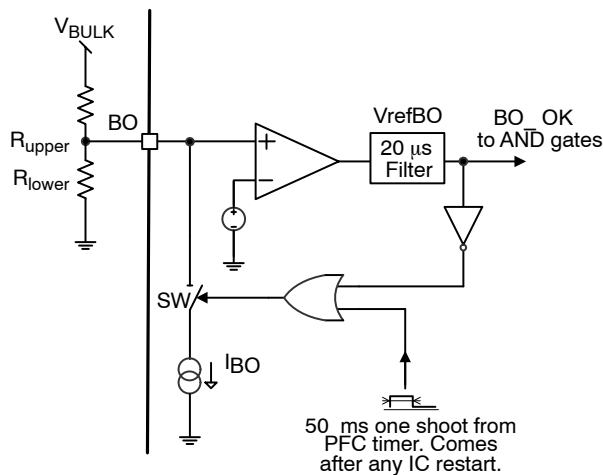

Figure 45. The Internal Brown-out Configuration with an Offset Current Sink
The Brown-Out circuitry (BO) offers a way to protect the application from low DC input voltages. The controller disables the output pulses if below a given level, if above it, it authorizes them. The internal circuitry, shown in Figure 45, offers a way to observe the high-voltage (HV) rail.